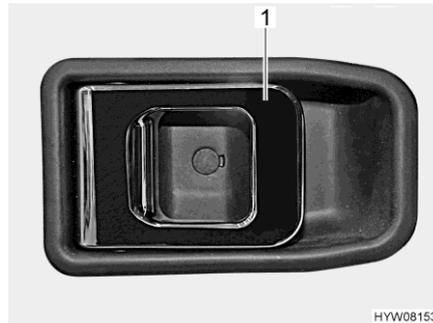

Fig. 50 Door lock (driver's door, inside)
- Opening:* ■ Pull on the handle (Fig. 50,1). The door lock is unlatched or opened.
- Locking:* ■ Push the handle (Fig. 50,1). The door lock is locked.